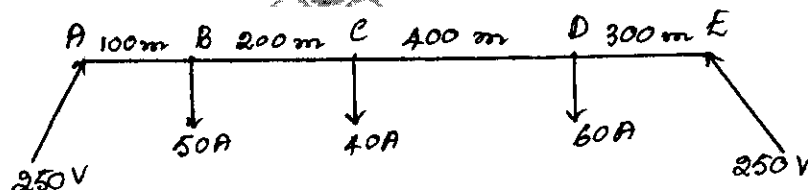

Fig.Q.8(c)
c. A two conductor copper cable is loaded as shown in Fig.Q.8(c). Both the ends are fed at the same voltage of 250V DC. Calculate: i) The point of minimum potential; ii) The current in each section; iii) The voltages at load points. The resistance of copper is 0.8Ω per km for go and return wires put together. (08 Marks)